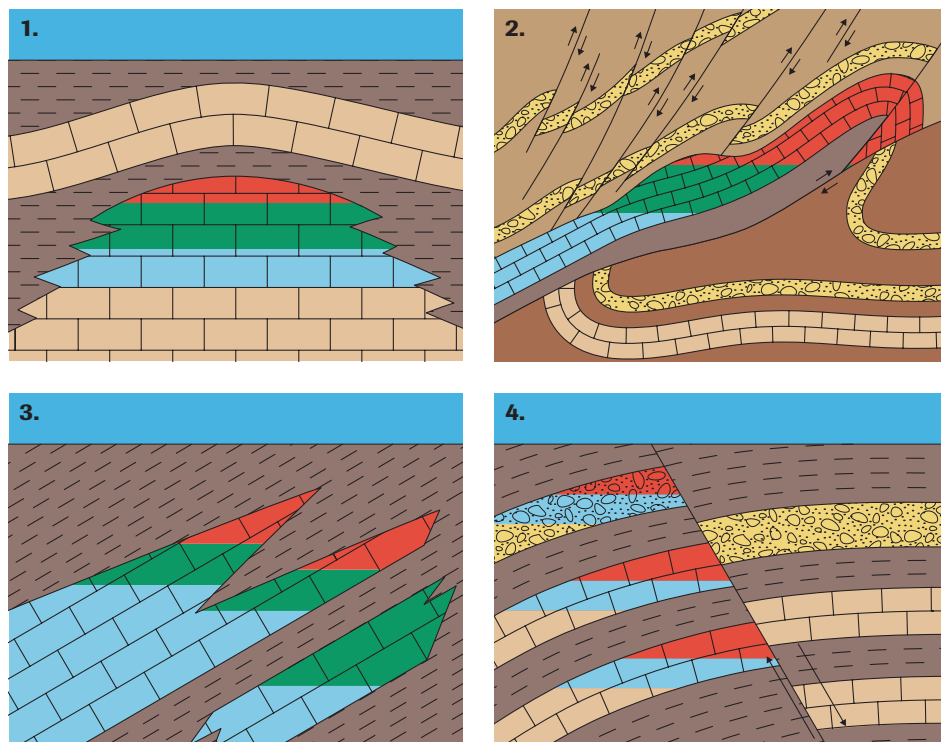

Figure 1
Natural gas is removed from underground by drilling a deep hole into the ground where geologists have predicted that natural gas and/or oil is to be found. Nature makes the geologists' task of predicting the presence of oil and gas very challenging, as illustrated in **Figure 1**, but modern technologies provide increased certainty to their predictions. From a chemistry perspective, the separation of the rock and water from the oil and gas can be explained by solubility theory. For example, nonpolar substances (such as oil) do not dissolve in polar substances (such as water). Some ionic substances (such as limestone) are only slightly soluble in water, and no ionic substances dissolve in oil.
- Geologists are able to use various technologies to empirically determine the geological features of oil- and gas-containing formations (Figure 1). Use intermolecular force and solubility theories to help explain the separation of